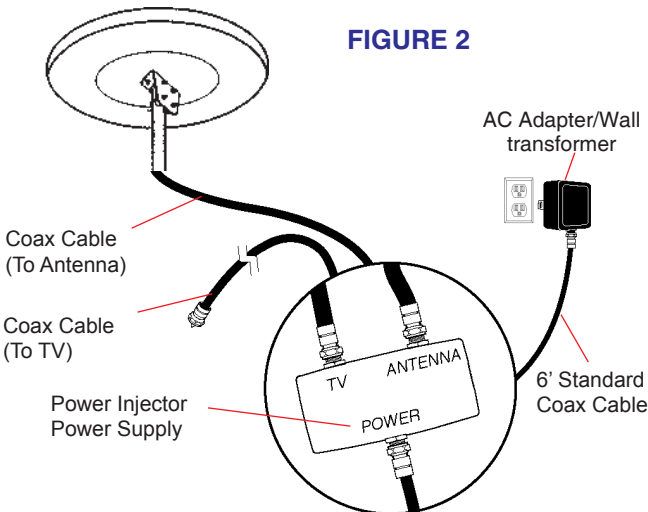

FIGURE 2
**STEP 2.** Attach “F” connector on download cable power injector jack marked “ANTENNA”. See figure 2.
**STEP 3.** Attach “F” connector on cable to analog TV/DTV receivers to power injector jack marked “TV”. See figure 2.